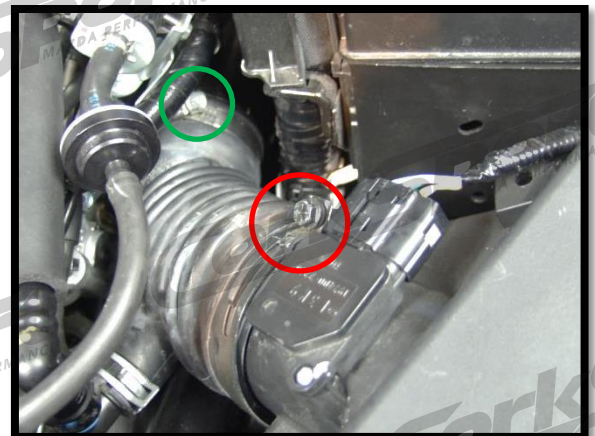

Figure 1b
- b) Loosen the two (2) 10mm hose clamps on the factory rubber intake elbow. (red circle and green circle in Figure 1b).
b) Loosen the two (2) 10mm hose clamps on the factory rubber intake elbow. (red circle and green circle in Figure 1b).